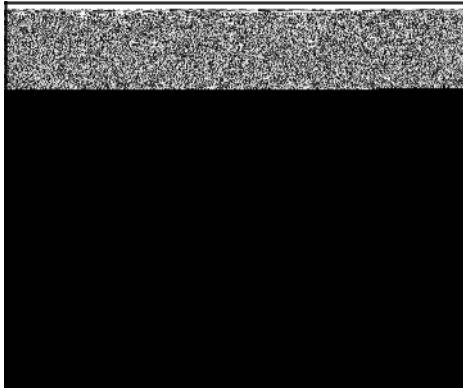

Figure 10
4. Place cylinder support tool (C, Figure 10) under cylinder or cover/sump bearing (B). Press driver until bearing is extracted.